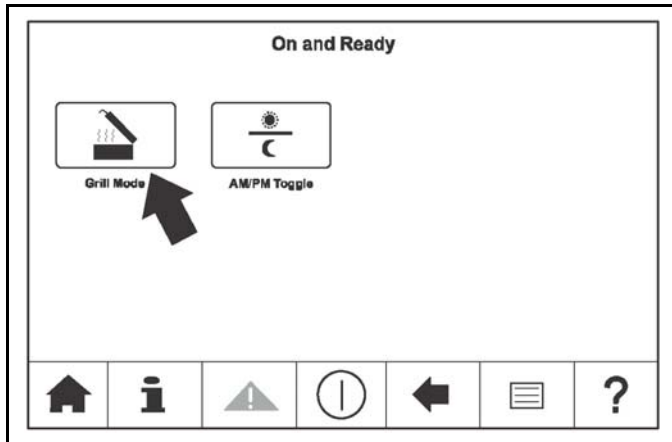

Figure-31
16. Choose Grill Mode (see page 40 for more information) or AM/PM Toggle. See Figure-31.